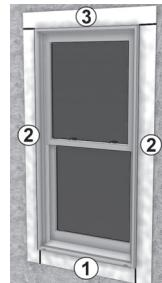

Figure 4
- (Recommended)** Following the flashing manufacturers' recommendations, apply flashing to the nail fins and surrounding wall surface starting with the bottom, then the sides, and finally the top, creating a shingle effect (reference **Figure 4**). **⚠ NOTE: Where pan flashing is present, do not use flashing that will impede proper drainage of the pan on the bottom.**